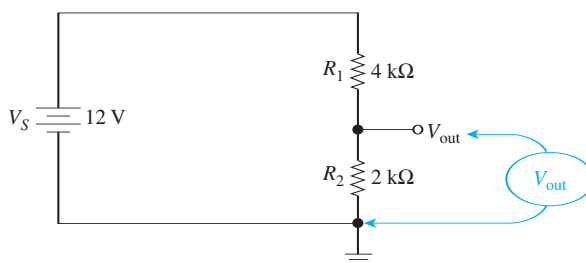

Figure 4 Circuit used to calculate the output voltage (V_{out}) with respect to ground.
Use the voltage-divider equation to find V_{out} in Figure 4. (V_{out} is the voltage from the point labeled V_{out} to the ground symbol.)
5. If the supply voltage in Figure 4 is increased to 18 V , V_{out} becomes _____ ($6\text{ V}/12\text{ V}$).
3. Refer to Figure 4 to solve for the unknown quantities in the following table.
4. Refer to the original Figure 4 to solve for V_{out} given the following open- and short-circuit conditions.